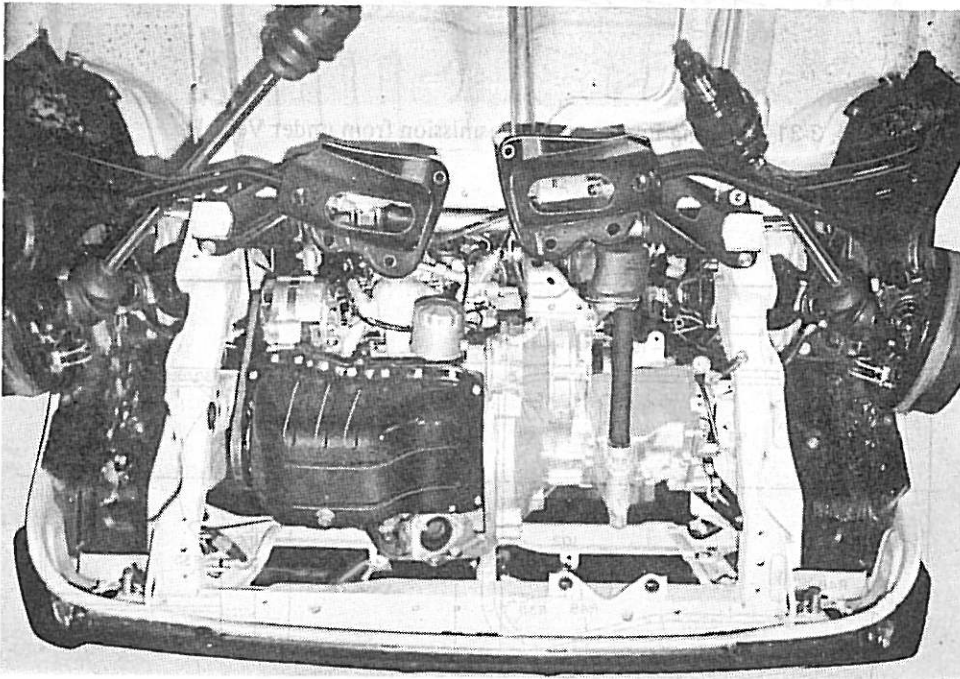

Fig. 3-30 Underside View of Engine and Other Related Parts as Disassembled Partly
4. Move the lower arms toward the rear side of the vehicle. And place the drive shafts on the respective lower arms. (Fig. 3-30 shows the engine assembly at this stage.)